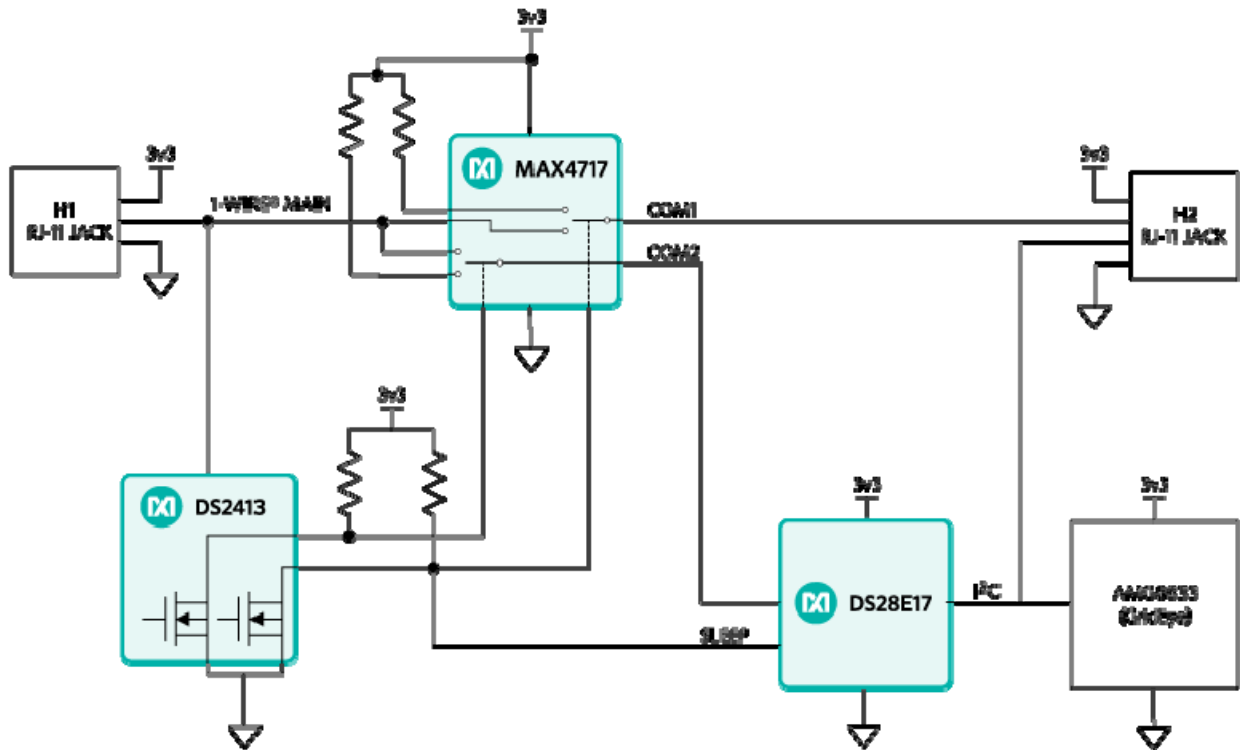

Figure 1. Block diagram of MAXREFDES131#.
**Figure 1** provides a block diagram of MAXREFDES131#.